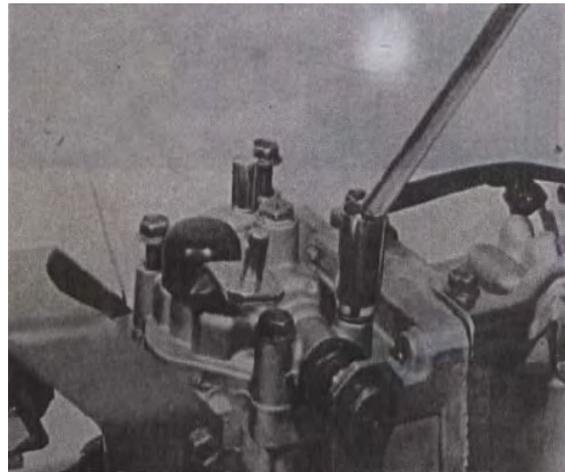

Fig 10-104
- (2) Remove gear shift lever case from transmission case (FIG.10-104)